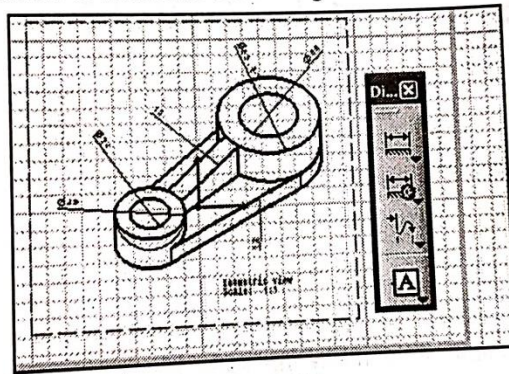

Fig. 4.33
step 8: You can give dimension to isometric view using dimension tool as shown in Fig. 4.33.